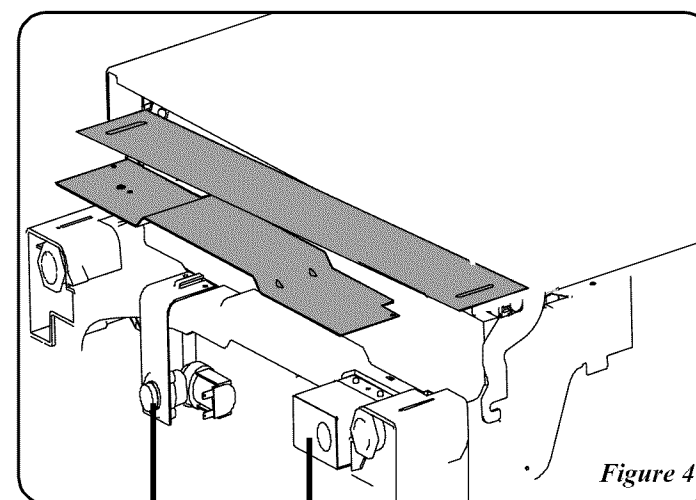

Figure 4
3. Remove two (2) screws at front of the kickplate brace using a #2 Phillips screw driver. Slide up and pull off.
4. Locate water inlet valve behind kickplate on bottom left underside of unit. See Figure 4. The valve has a $\frac{3}{8}$ " NPT female fitting.
5. Wrap 90° elbow (not included) with pipe thread tape (or apply joint compound) and thread it into water inlet valve. When tightened, elbow should point toward the left. To prevent bending of bracket or breaking of valve, avoid overtightening. See Figure 4.
junction box on right underside of unit behind kickplate assembly. See Figure 4. Determine where you will connect to hot water supply. Review Figure 4 and note the location of water inlet valve. Determine where you will connect the drain hose.
2. Route water line to water inlet valve as shown in **Figure 4**.